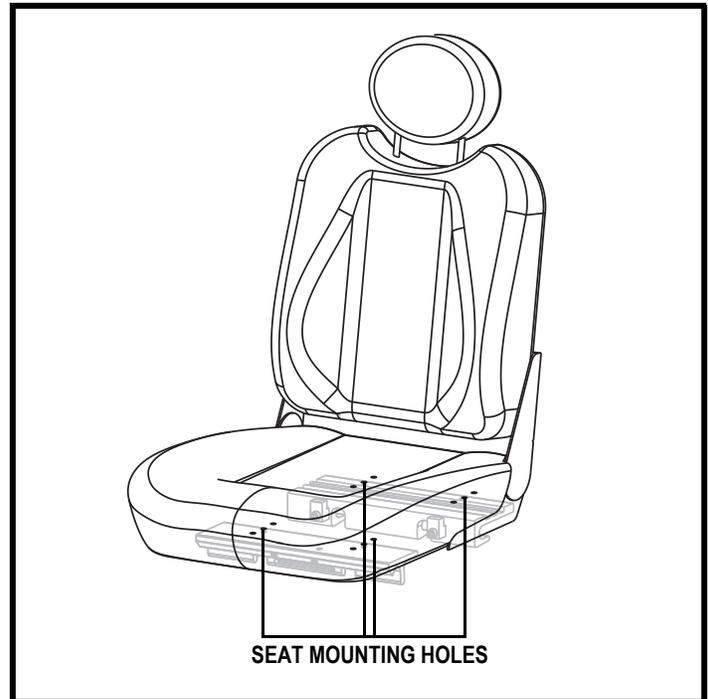

Figure 16. Seat Position Adjustment
6. Reposition the extrusions on a different set of mounting holes. You must move both extrusions the same number of holes either forward or rearwards. **See figure 16.**